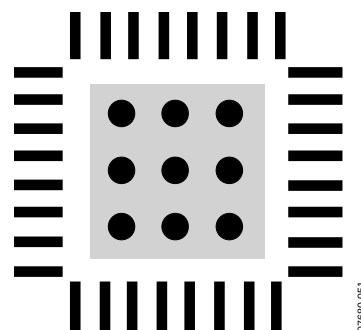

Figure 66. Exposed Pad Layout Example, Top View
- Vias should be placed to connect all layers of copper, allowing for efficient heat and energy conductivity. For an example, see Figure 66, which has nine vias arranged in a 3 inch $\times$ 3 inch grid in the pad area.